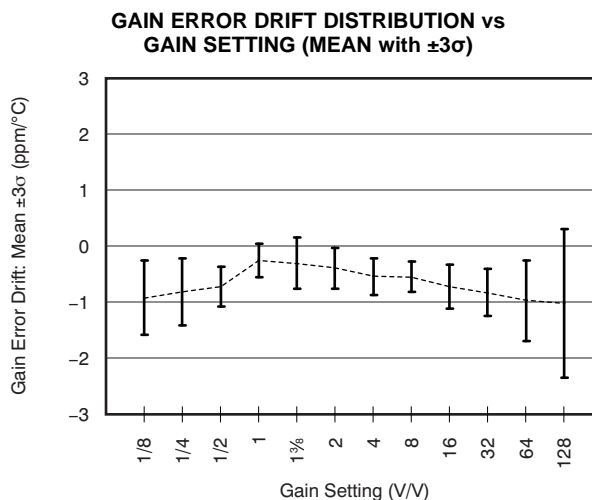

Figure 10.
(5) Gains smaller than  $\frac{1}{2}$  are measured with smaller output swing.
(6) Specified by design; not production tested.
(7) See Figure 10 for typical gain error drift of various gain settings.
(8) See Application Information section and typical characteristic graphs.
(9) Only  $G = 1$  is production tested.